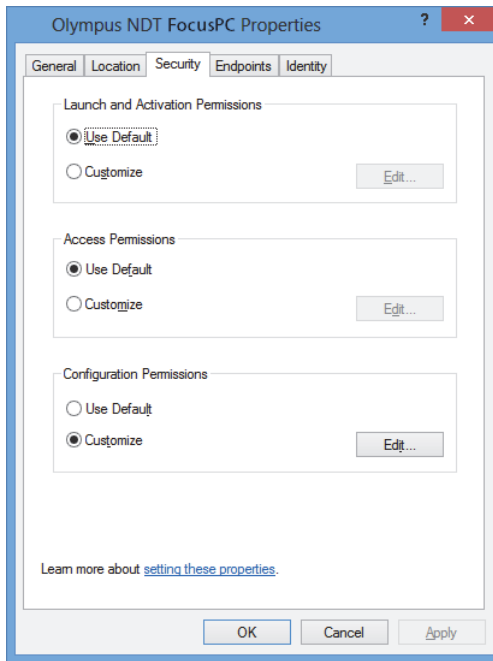

Figure 2-21 The Security tab in the Evident NDT FocusPC Properties dialog box
20. In the **Evident NDT FocusPC Properties** dialog box (see Figure 2-21 on page 46), proceed as follows: